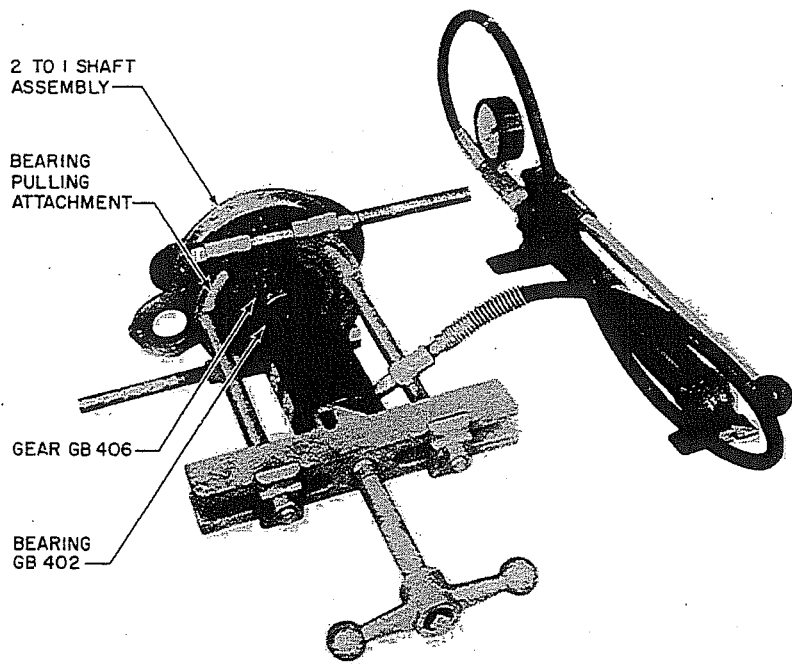

Figure 17. 2 to 1 Shaft, Removal of Gear GB406, Spacer GB405, and Bearing GB402
- B. Secure the bearing pulling attachment between the gears of Gear GB406. This gear, Spacer GB405, and Bearing GB402 will be removed with approximately 12 tons of pressure applied to the shaft (figure 17).